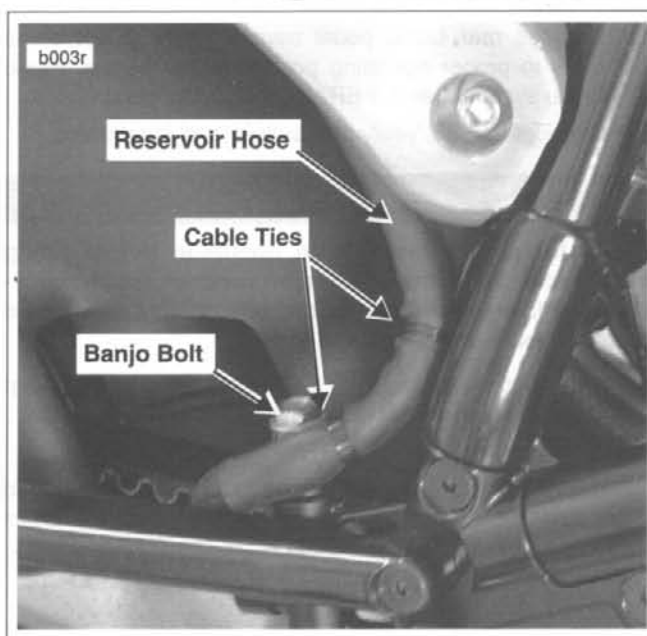

Figure 2-89. Rear Master Cylinder Banjo Bolt
7. See Figure 2-89. Cut two cable ties holding rear brake reservoir hose to rear brake line above rear master cylinder on right side of motorcycle.
8. See Figure 2-89. Install two cable ties (thick) to reservoir hose and rear brake line in **two** locations as shown in figure. Use care to avoid pinching hose.